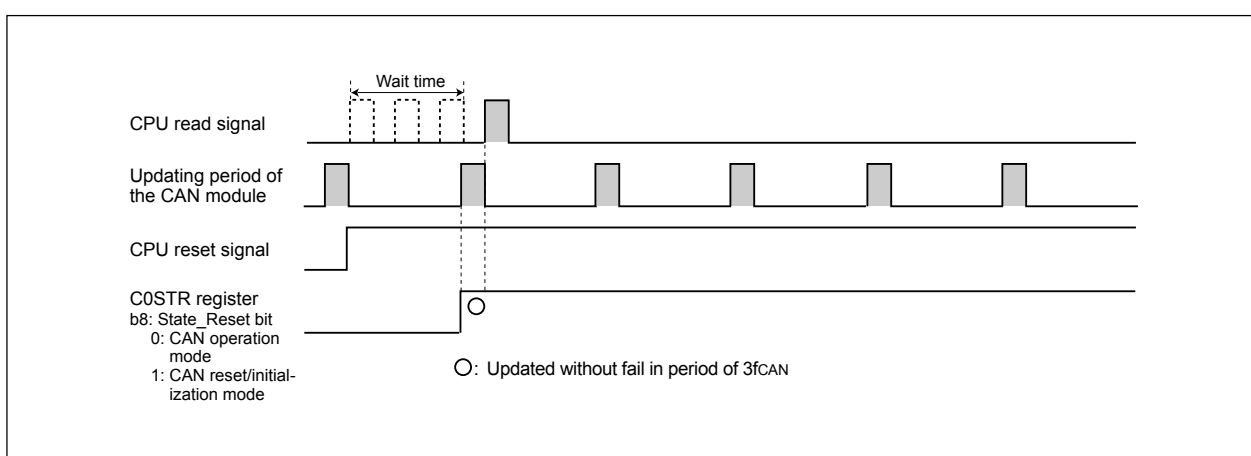

Figure 22.6 With a Wait Time of 3fCAN Before CPU Read
- (1) There should be a wait time of $3f_{CAN}$ or longer (see **Table 22.2**) before the CPU reads the C0STR register. (See **Figure 22.6**)